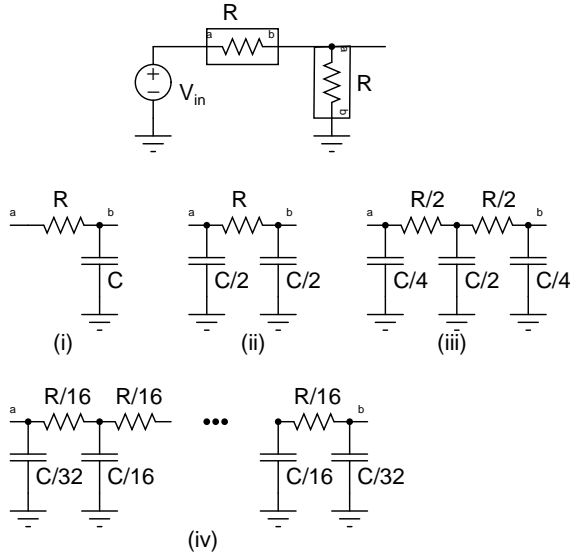

Figure 4: Problem 4
4. Simulate and plot (overlaid) the magnitude and phase response of the circuit shown in Fig. 4 using the four resistor models shown. $R = 10\ \text{k}\Omega$, $C = 1.5\ \text{pF}$. Comment on the results.